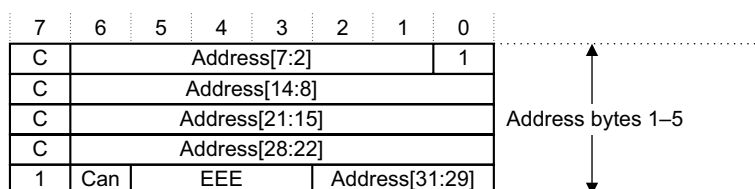

Figure 7-6 Original encoding of ARM state branch with exception address bytes
- A 5-byte packet, with information about the exception included in Address Byte 5. See Figure 7-6. This format can only be used in ARM state, and is deprecated.